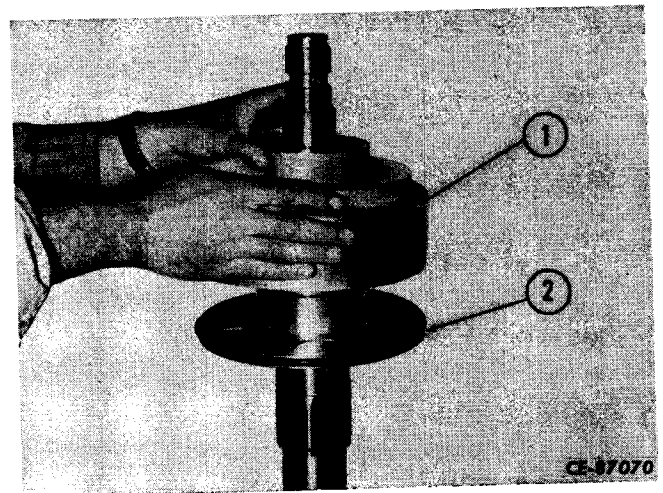

Figure 4-34
Remove piston housing (2, Fig. 4-34) and "O" ring (2) from shaft.